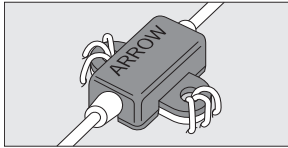

Figure 6
- Secure catheter clamp and fastener as a unit to patient by using either catheter stabilization device, stapling or suturing. Both catheter clamp and fastener need to be secured to reduce risk of catheter migration (refer to Figure 6).